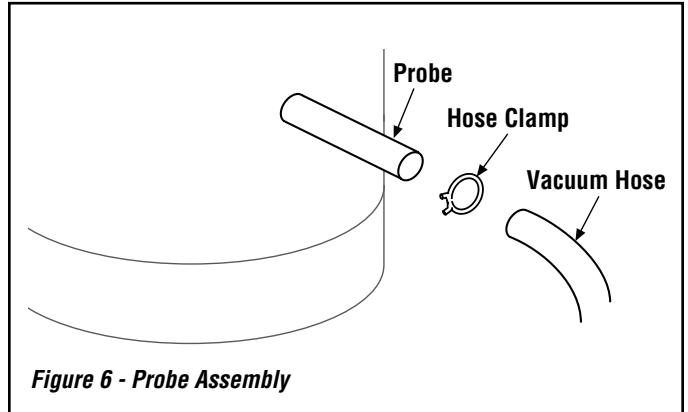

Figure 6 - Probe Assembly
- 5.5 Secure the **vacuum hose** [#2] to the probe on the **probe assembly** with one of the provided **hose clamps** [#10] (**Figure 6**).